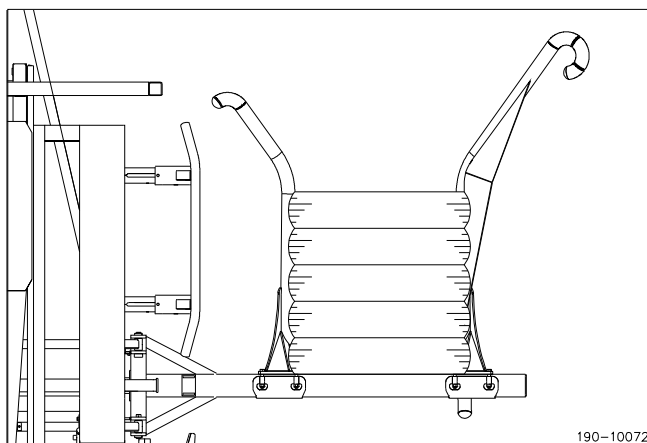

Figure 19
- 4) Raise the loading arm as soon or slightly before the bale reaches the bottom of the "U". (Figure 19)